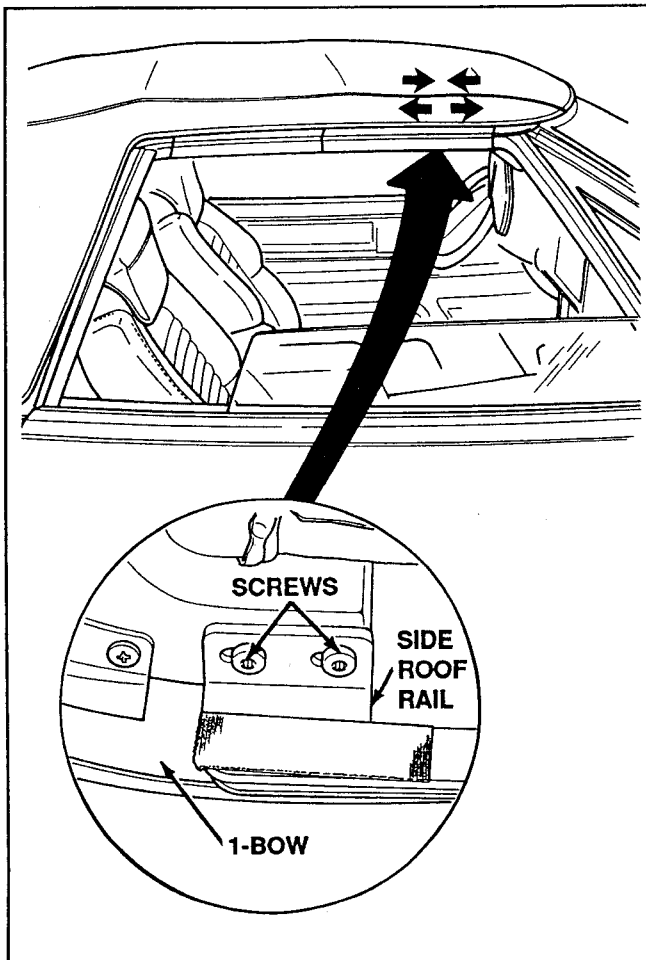

Figure 34. Adjust 1-Bow
2. Align the augers and receivers, then tighten the set screws (Fig. 34).